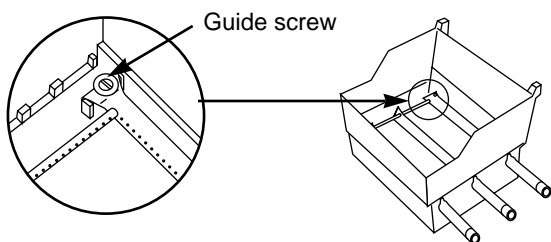

Figure 11
- g) Slide the burner assembly out from under the guide screw and washer in the corners of the cooking box. Figure 11.